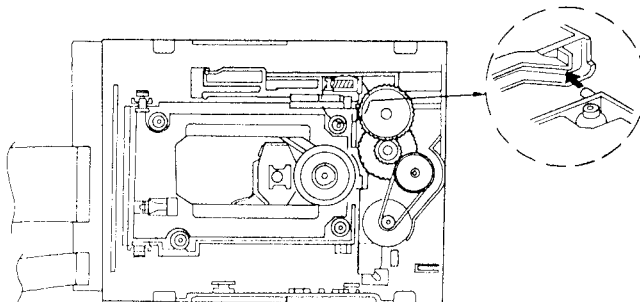

Figure 31
- (10) Fit the front end of the Traverse Deck as shown in Figure 31.